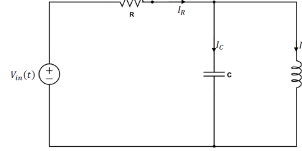

Fig. 4:  $RLC$  circuit
**Question 1.** Consider the system  $G_{RLC} : v_{in} \mapsto i_R$  shown in Fig. 4. In other words, the input is the applied